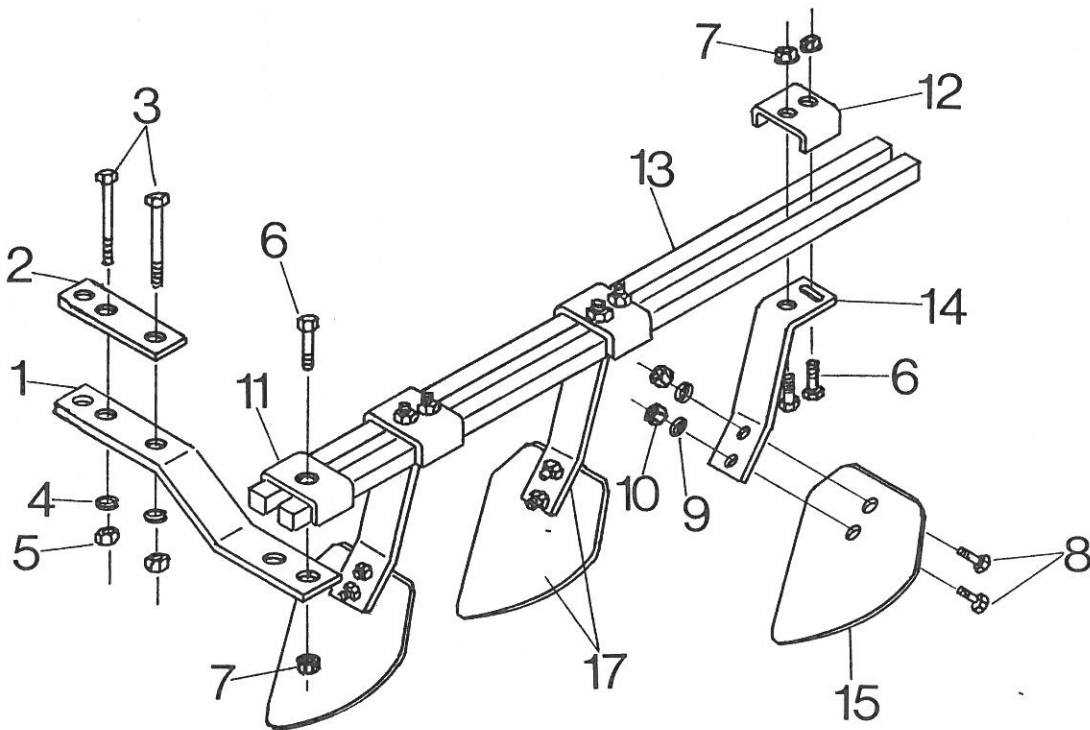

FIG. 11
Side draft and/or penetration not uniform	See Fig. 11 and comments.
Furrow not being filled on the left side	Harrow tracking too far to the right as in Fig. 11. Right front plowing too deep and rear not deep enough.
Bed left on right hand side of harrow	Right front plowing too deep or condition A, Fig. 11.
2. Refer to Fig. 11 for this assembly. Mount the scraper bar mounting bracket, Ref. 1, underneath the gang beam, and place the clamp plate, Ref. 2, on top of the gang beam with the 5/8" x 5" hex bolt for 3" x 5" gang beams or 5/8" x 5" hex bolt for 4" x 6" gang beams. Note the scraper bars are mounted on the rear of the gang beam.